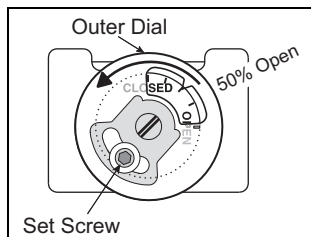

Figure 4.3. Manual Gas Butterfly 50% Open
4. Set the manual gas valve at each burner to 50% open. See Figure 4.3. If using an adjustable limiting orifice valve, set it at 5 full 360° rotations up from the bottom.
3. Set the manual gas butterfly valve at each burner to 50% open. See Figure 4.3. If using an adjustable limiting orifice valve, set it at 5 full 360° rotation up from the bottom.